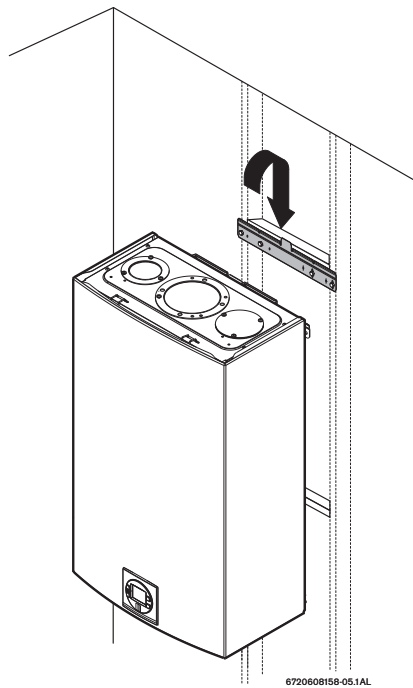

Fig. 23 Mounting the heater
- ▶ Hang the appliance on the bracket, see Fig. 23, page 23.